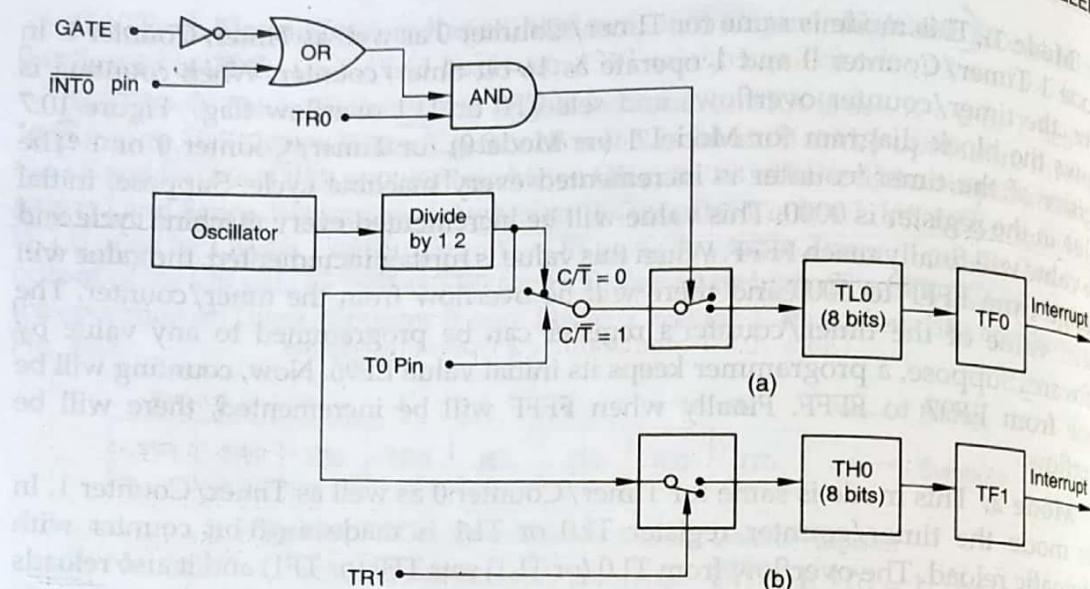

Fig. 10.10 Timber/Counter 0 in Mode 3 Operation
**Mode 3.** In this mode Timer/Counter 0 makes TL0 and TH0 to operate as two separate Timer/counters. Figure 10.10 (a) and (b), show Timer/Counter 0 in Mode 3 operation. In Mode 3, TL0 uses control bits of Timer/Counter 0 such as GATE, C/T, TR0, INT0 and TF0, as shown in Fig. 10.10 (a). TH0 is locked into timer operation and simply counts machine cycles as shown in Fig. 10.10 (b). It uses the control bits of Timer/Counter 1 namely, TR1 and TF1. MODE 3 is used where one extra 8-bits timer/Counter is required. Timer/Counter 1 does not work in Mode 3 separately/independently. But it can operate simply as a timer since TH0 is locked into a timer function. Thus TH0 now controls the 'Timer 1' interrupt. However, while Timer/Counter 0 is in Mode 3, Timer/Counter 1 may be used in Mode 0, 1 or 2 which does not require an interrupt. It can also be used for baud rate generation for the serial port while Timer/Counter 0 is in Mode 3.